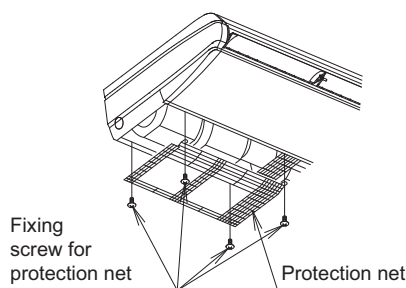
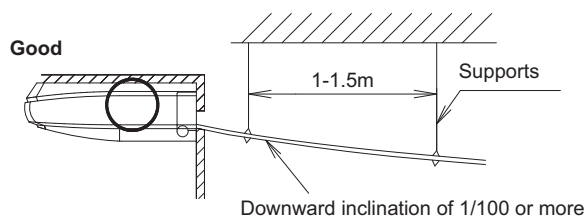
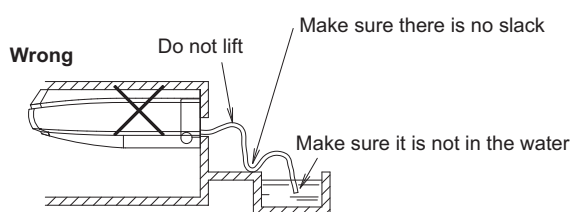

Fig. 22
Fig. 23
Fig. 24
After the drain hose (1) (accessory) installing, attach the protection net by reversing the steps taken to remove it. (Refer to Fig. 22)
- Select the piping diameter equal to or larger than that of the drain hose (1) (accessory) (polyvinyl chloride piping, nominal diameter 20mm, outside diameter 26mm).
- Install the drain piping as short as possible with downward inclination of 1/100 or more by avoiding air stagnation. (Refer to Fig. 23 and Fig. 24)
- Install supports at a distance of 1 to 1.5m so that the piping may not deflect. (Refer to Fig. 23)